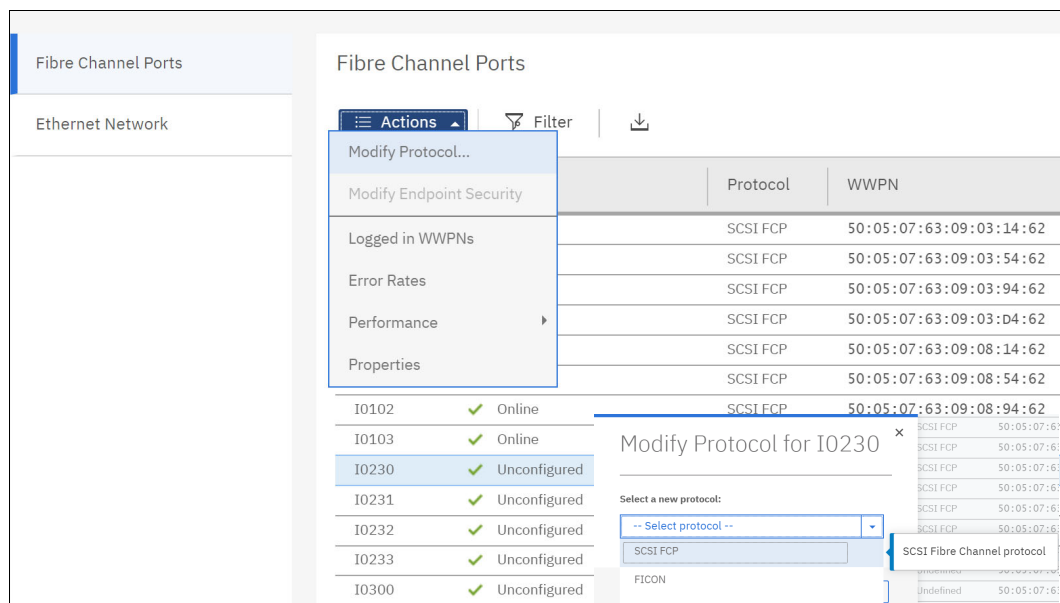

Figure 9-52 Modify Protocol window
3. From the Actions tab, click **Modify Protocol** to open the Modify Protocol window, as shown in Figure 9-52.